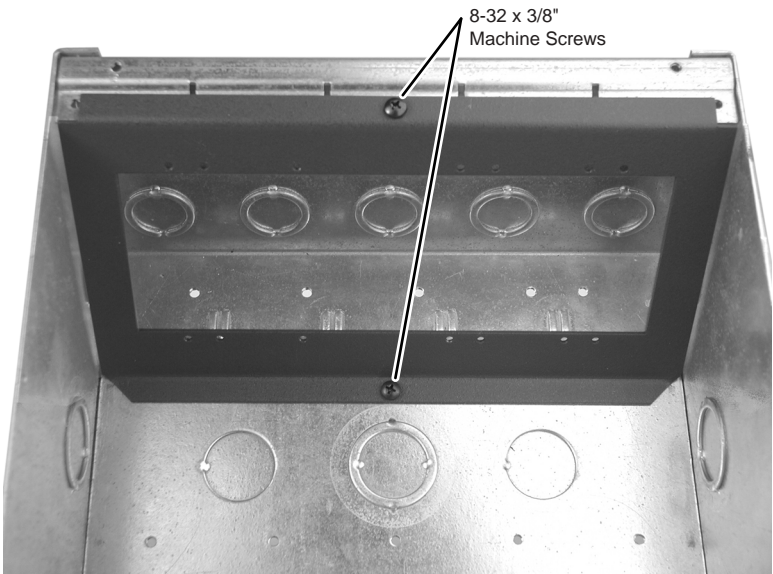

Figure 5 — SC-AFM8 adapter plate installed
- c. For the SC-AFM8 adapter plate, secure the faceplate to the top and bottom of the floorbox with the included 8-32 x 3/8" machine screws (figure 5).